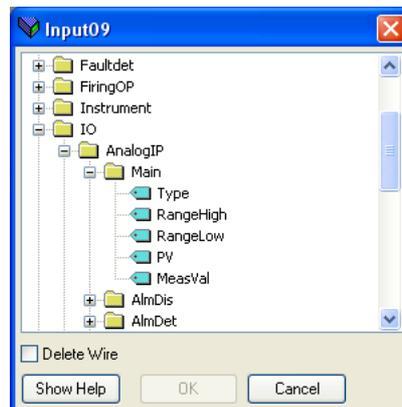

Figure 147 Browser window
1. Double click the next available position in the input or output data table and select the variable to assign to it. A pop-up (Figure 147) provides a browser from which a list of parameters can be opened.